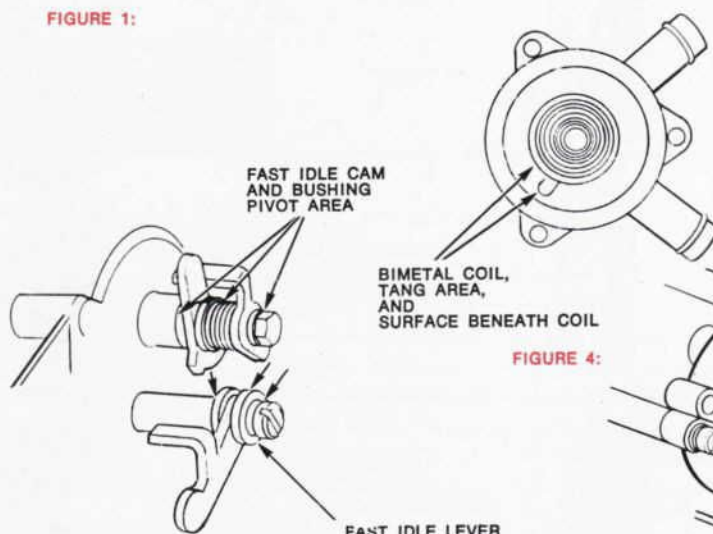

FIGURE 2:
- Fast idle cam and bushing pivot area (Figure 2)